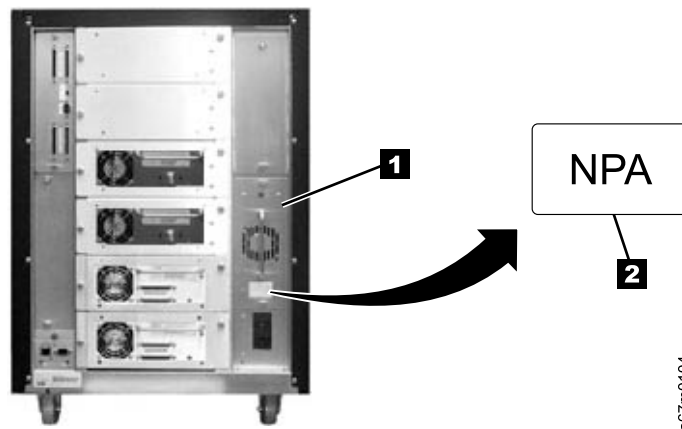

Figure 32. Installing a redundant dc power supply
1. Verify that the correct dc power supply is currently installed in the library by locating the dc power supply at the rear of the library (see **1** in Figure 32 and examining it for a label: